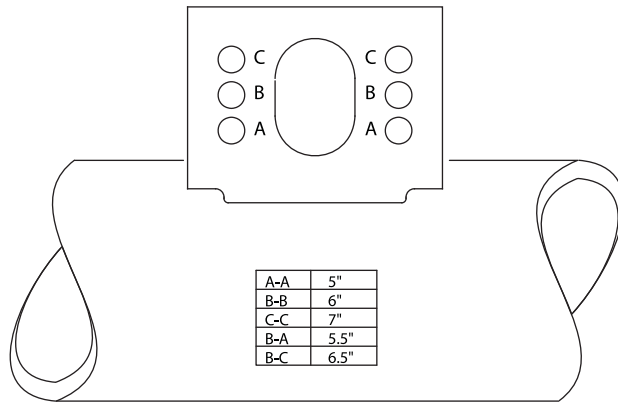

Figure 5. Brake adjuster mounting holes
1. When air brake chambers are installed, the correct mounting holes must be used to correspond to the brake adjuster length (see figure 5).